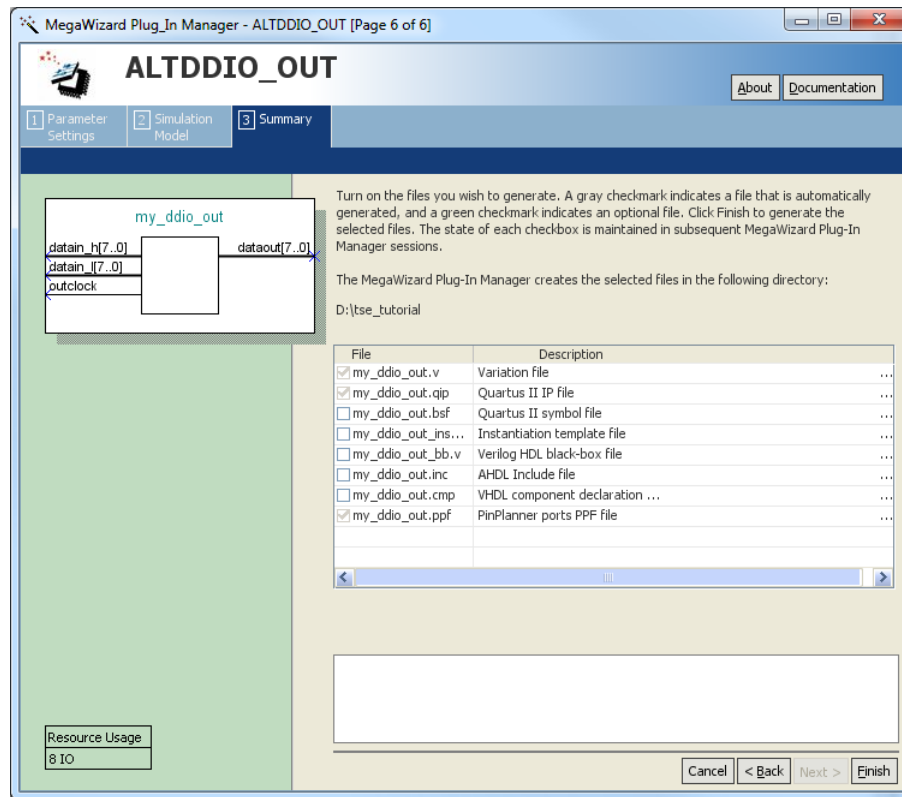

Figure 18. Settings for the Summary tab of DDIO\_OUT register.
4. Navigate to the **Summary** tab and uncheck all the uncheckable files as shown in Figure 18. Then click **Finish**.